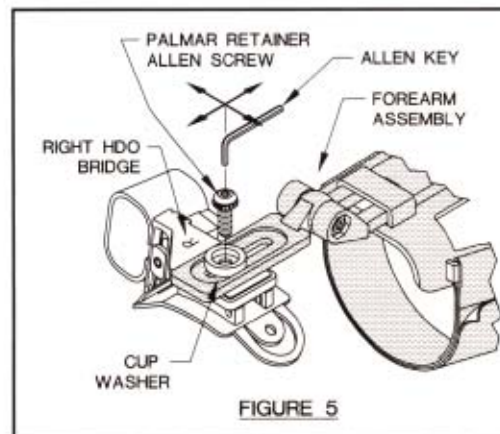

FIGURE 5
- 6 HDO can be further aligned by loosening allen screw on HDO bridge and positioning medial/lateral or angling to hand see **Figure 5 page 7 & Figure 16**.